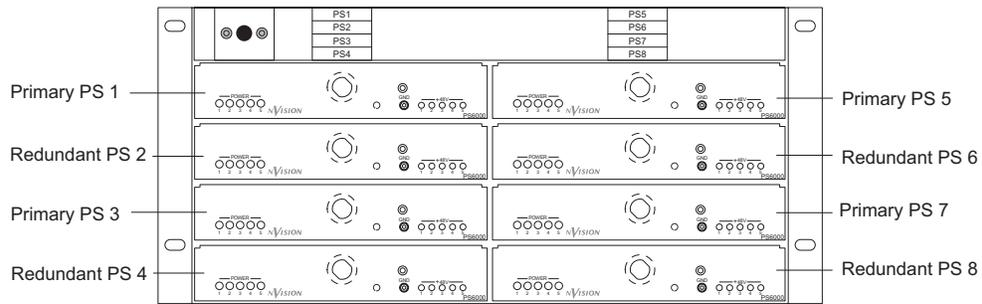

Figure 3-6. NV6257 Power Supply Power Supply Module Slots (Front View)
- 7 Facing the front of the **NV6257**, install the primary power supply modules in slots *PS 1* and *PS 3*, as shown in Figure 3-6.
- 8 (Optional) Facing the front of the **NV6257**, install optional redundant power supply modules in slots *PS 2* and *PS 4*, as shown in Figure 3-6.